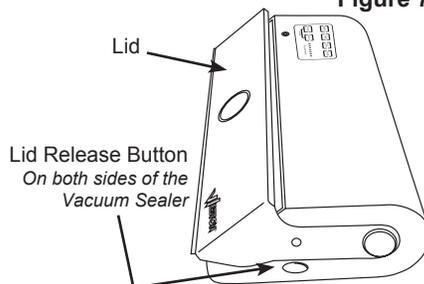

Figure 8
4. Fill the vacuum bag with the product to be vacuum sealed. The open end of the vacuum bag must be clean and dry to seal properly. **HINT:** When filling bags, fold over the top portion of the bag, fill the bag, then unfold the top portion to seal (Figure 8).